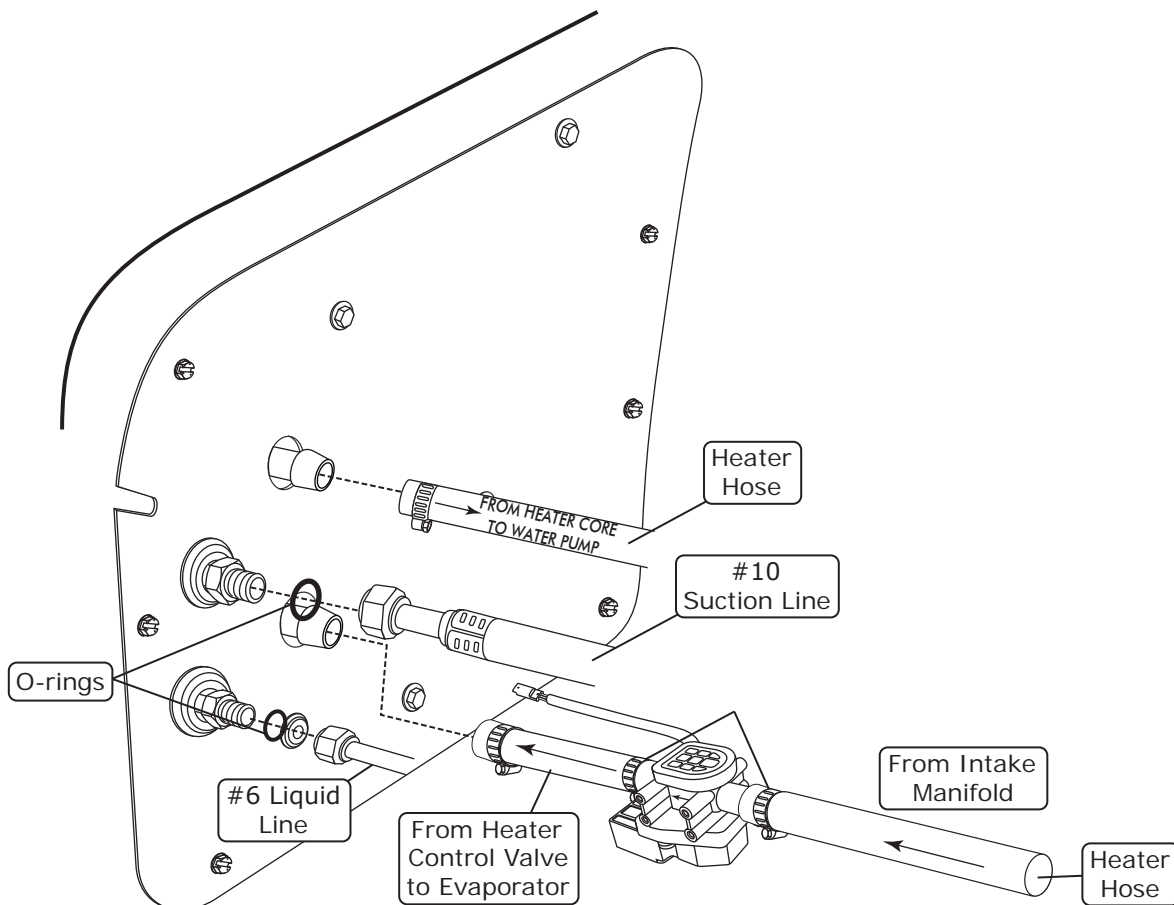

Figure 1
2. Route a second heater hose (not included) from the intake to the heater line coming through the firewall as shown in Figure 1, below. **NOTE: Install the heater control valve in line with the intake manifold (pressure side) heater hose.** Secure using hose clamps as shown in Figure 1, below. Note proper flow direction.